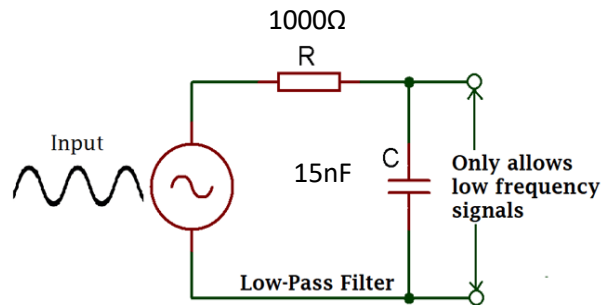

Figure 7: Simple R-C Low-Pass Filter Circuit
- Figure 7 is a simple schematic of the circuit.